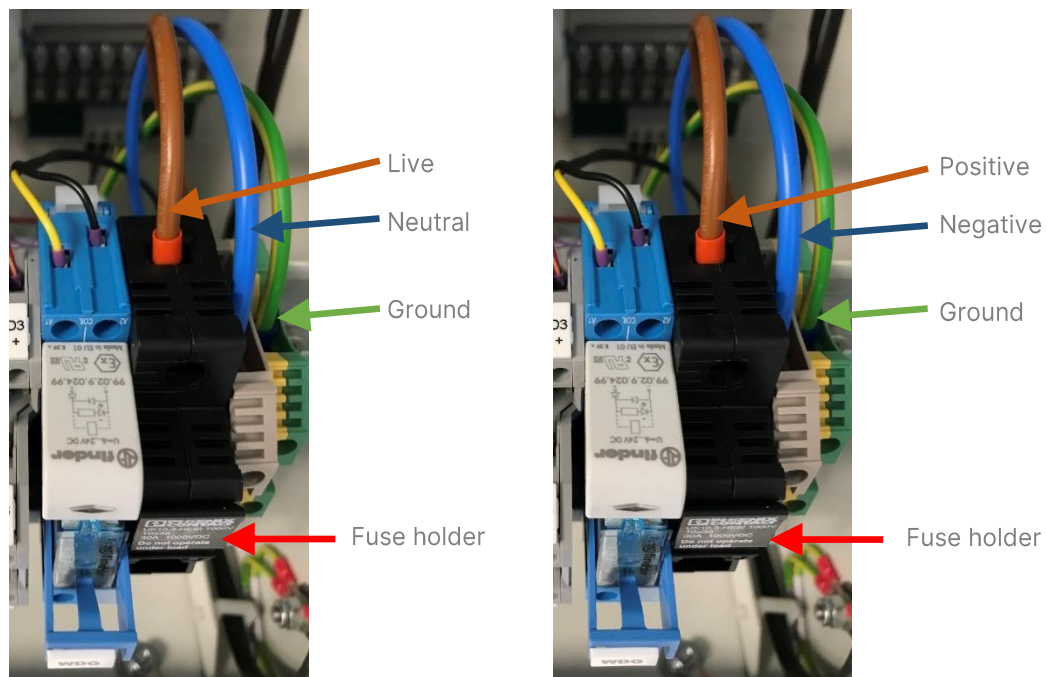

Figure 8-4: AC power (left) & DC power (right)
The power supply terminals for the mains supply and the modular fuse holder are shown in Figure 8-4.
- Ensure that the mains supply is de-energised. Route the mains supply cable through the 20-mm cable gland on the bottom of the product to the product fuse holder (see Figure 8-4).